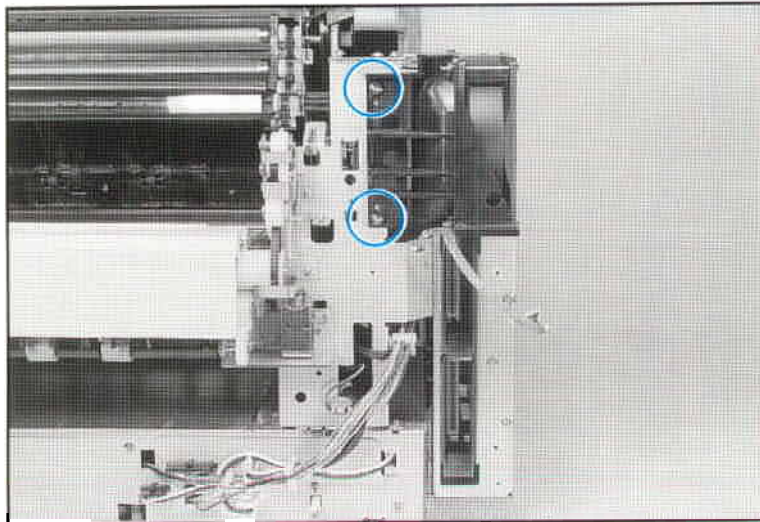

Figure 6-16 Main Fan Screws
2. Remove (2) screws from the side of the fan facing the front of the printer, see Figure 6-16.